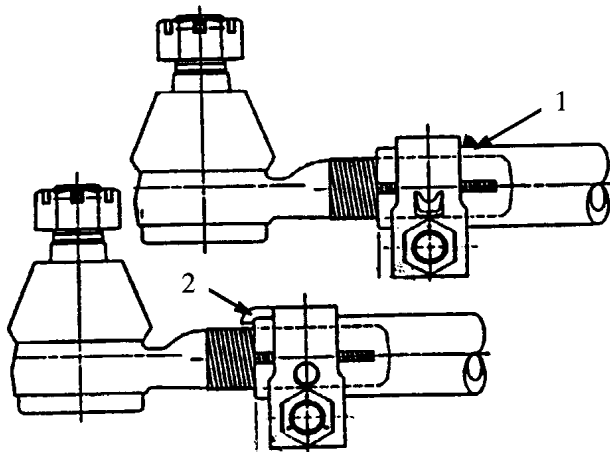

Figure 10 Types of Tie Rod Clamps
Some tie rod clamps will be free to rotate around the tie rod allowing setting of toe-in while avoiding contact of the axle. There are two ways mechanical stops will position the clamps. One style clamp is limited by a spot weld on the tube. The second style clamp is limited by a tab that will lock against the end of tube. Both styles are shown in Figure 10 .
11. Loosen the tie rod clamps that secure the tie rod ends in position in the tie rod. Refer to Figure 10.